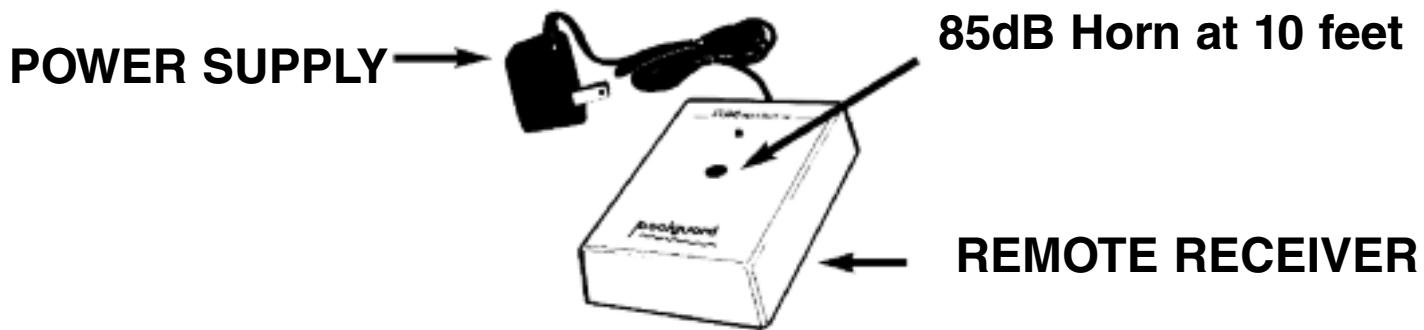

FIGURE 6
- A coded pulse receiver (Remote Receiver). (**See Figure 6**).
- A standard wall outlet power supply. (**See Figure 6**).